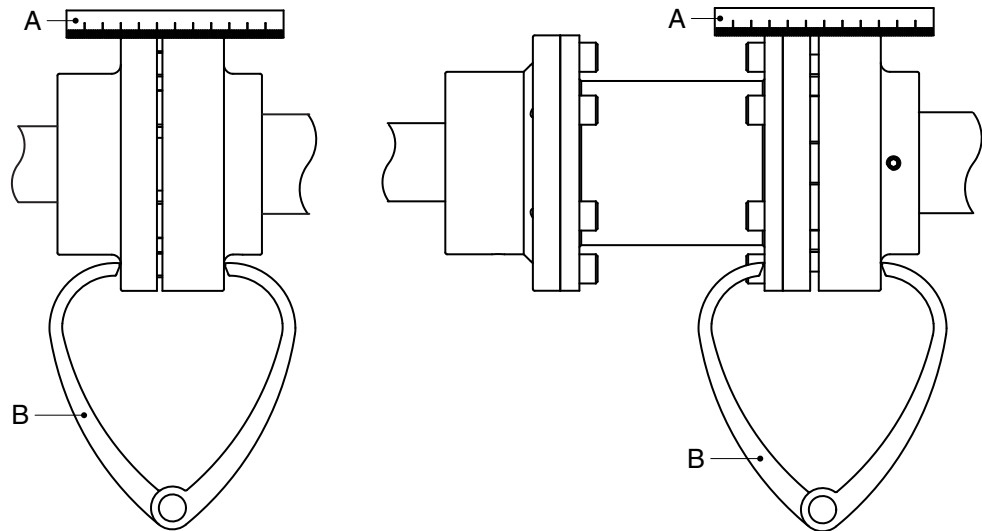

Figure 4: *Aligning the coupling by means of a ruler and a pair of outside calipers.*
- 1 Place a ruler (A) on the coupling. Place or remove as many copper shims as is necessary to bring the electric motor to the correct height so that the straight edge touches both coupling halves over the entire length, see figure 4.
- 3 Check the alignment once again using a pair of external calipers (B) at 2 diametrical opposite points on the sides of the coupling halves, see figure 4.